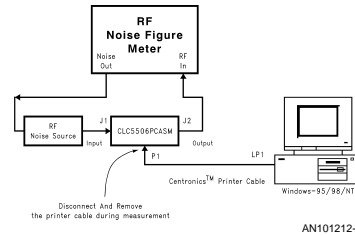

FIGURE 3. Test Setup Block Diagram for Noise figure Measurement
*Figure 3*, shows the typical test setup block diagram for the measurement of noise figure parameter. A RF noise source was used. During the noise figure measurement, the Centronics™ printer cable connected to P1 should be disconnected from the evaluation module and removed from the measurement area to reduce PC EMI noise pick-up.